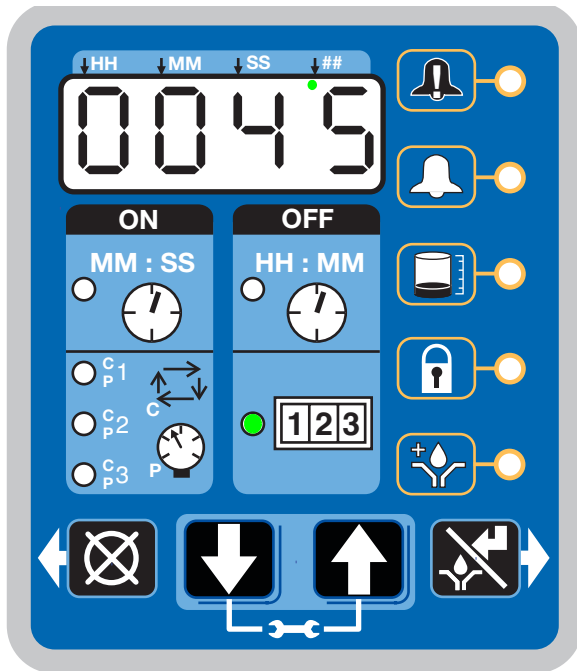

FIG. 52
- The LED next to 1-2-3 illuminates (FIG. 52).
The example shown in FIG. 52 shows the remaining number of machine counts is 0045.
- If Machine Count has been set the LED next to 1-2-3 illuminates (FIG. 52, page 61).